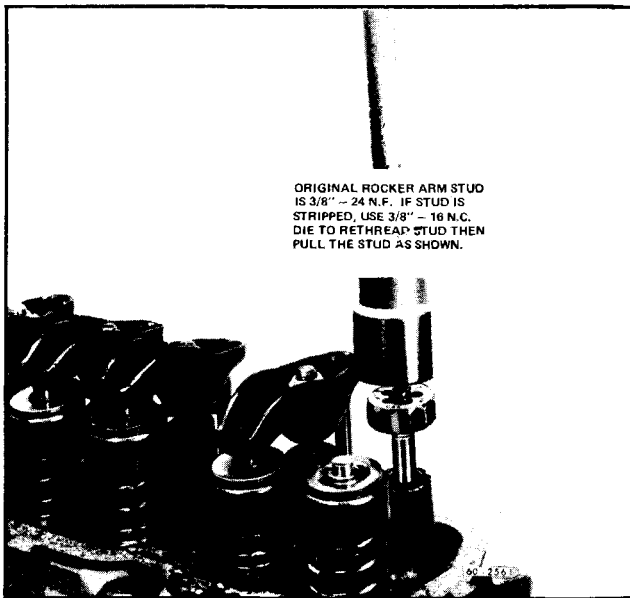
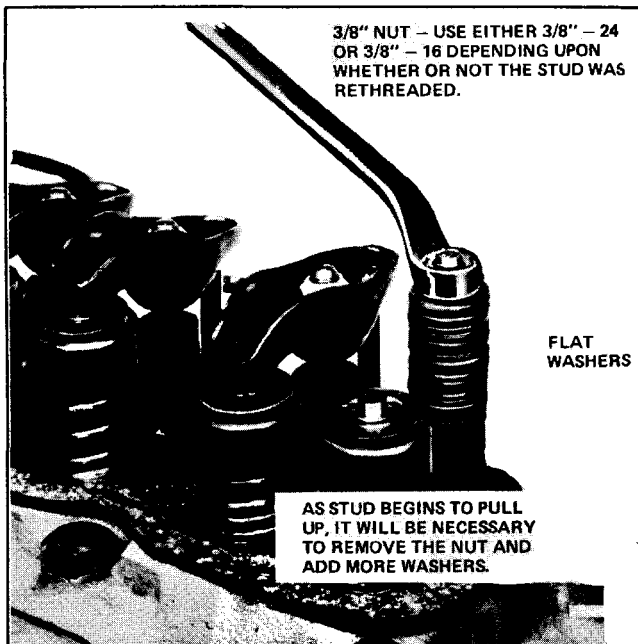

Fig. 6-31 Rethreading Stripped Rocker Arm Stud
Fig. 6-32 Removing Rocker Arm Stud
3. If rocker arm is stripped, refer to Fig. 6-31 for rethreading and Fig. 6-32 for removing rocker arm stud.